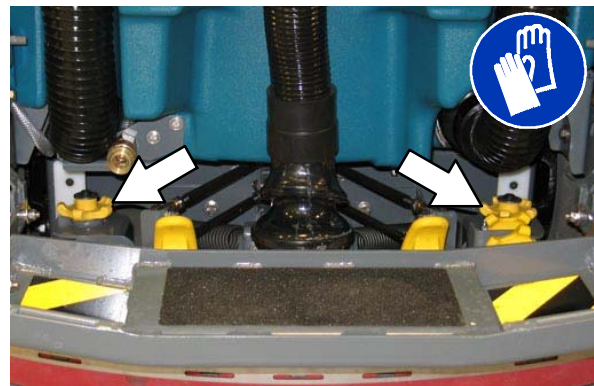

FIG. 14
3. To adjust the overall squeegee blade deflection, loosen the lock knobs on both sides of the machine. (Fig. 14)